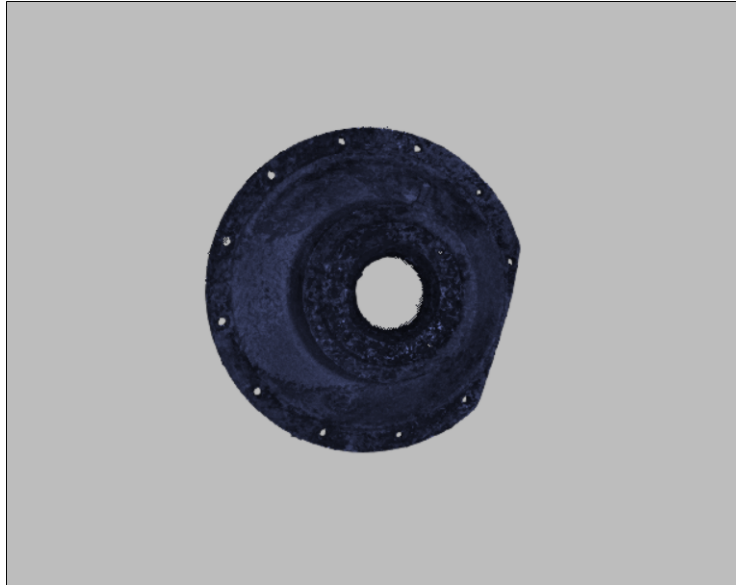

Figure 126: Alignment result.
5. Click *Align*. The result should be as Figure 126 depicts. If you are dissatisfied with this result, click  and follow the recommendations in Best Fit Alignment with Points.